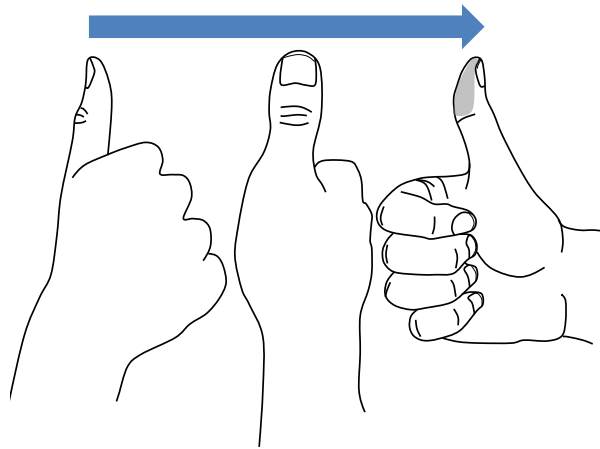

Figure 7: The thumb is rolled from one side of the nail to the other.
4. Firmly roll your right thumb from left to right (Figure 7) over the ink pad to evenly cover the skin from one edge of the fingernail to the other, and from the crease of the first joint to the tip of the thumb.